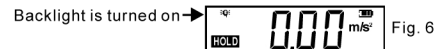

Fig. 6
6. In dark measurement environment, you press "A/VD" and "ON/TEST" to start up. Backlight can be turned on, as figure 6.